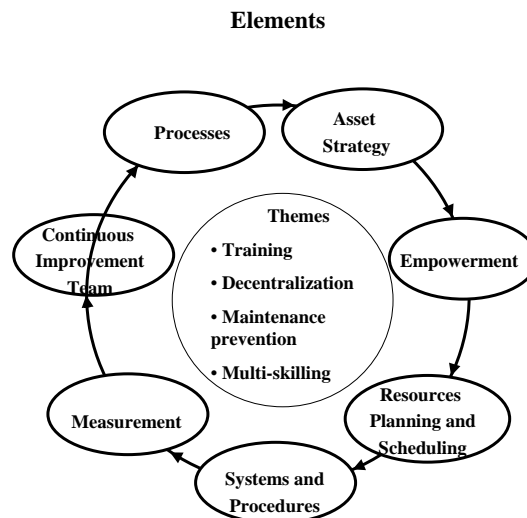

Figure 8-1 The TPM Wheel
- ❖ Each enterprise has its own unique definition and vision for TPM, but in most cases there are common elements in any TPM program. These have been summarized in the TPM wheel in Figure 8-1